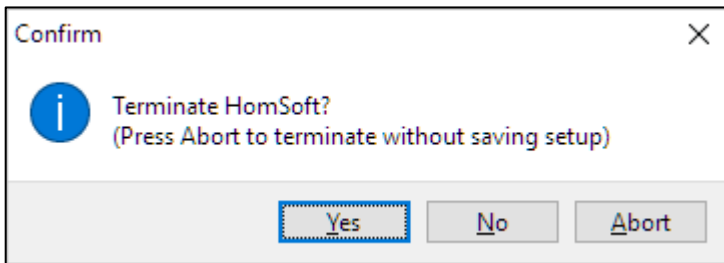

Figure 53. When exiting *HomSoft* for settings identification, click **Yes** (not **Abort**).
1. Exit *HomSoft*. Click **Yes**, not **Abort** in confirmation dialog shown in Figure 53 (in the latter case the Ho0.ini setup file would not be written). Note down and copy to MyProblem file any error messages.